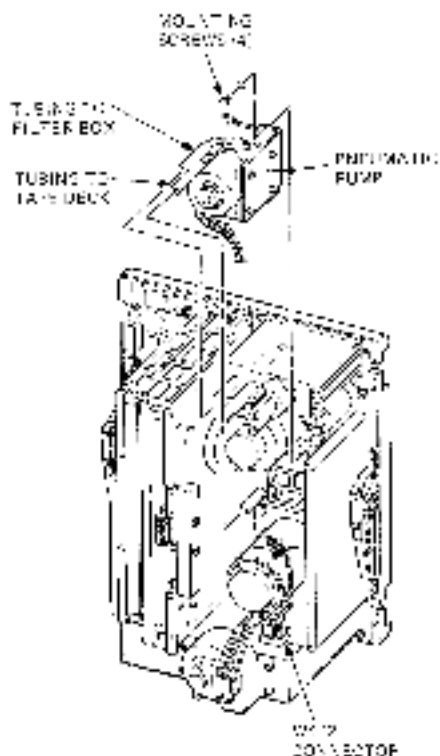

Figure 4-14 Pneumatic Pump Assembly
2. Detach the two pneumatic lines from the filter box assembly (Figure 4-14).